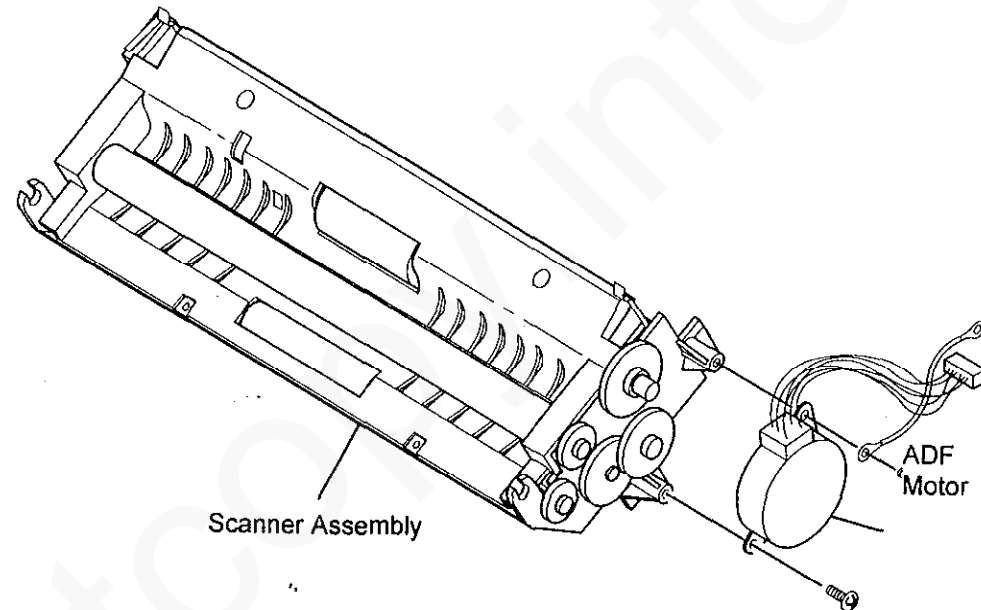

Figure 1 Removing the ADF Motor
2. Remove the ADF Motor (Figure 1).